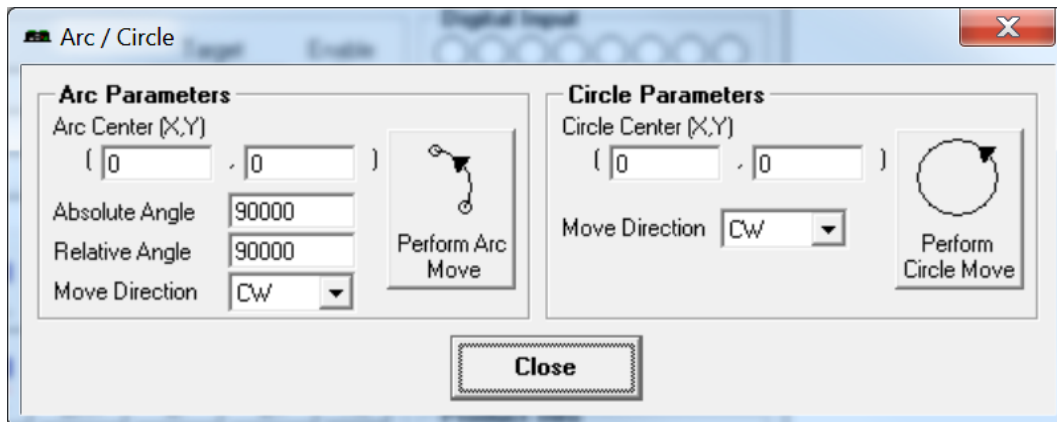

Figure 7-7
22. **Arc/Circle Tool** – Clicking on this button will provide the user with an interface to perform Arc/Circle XY moves. This will bring up the window shown in Figure 7-7.